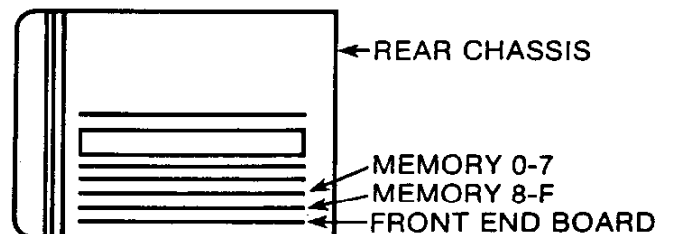

Figure 6.10 8-F Memory Location
Remove the "0-7" memory board (see Figure 6.10) and put on an extender. Turn the power on. Tests are performed using power up status mode.
5. Turn power off and return "0-7" memory to its chassis position. Repeat the process for "8-F" memory (see Figure 6.10). Use an input.